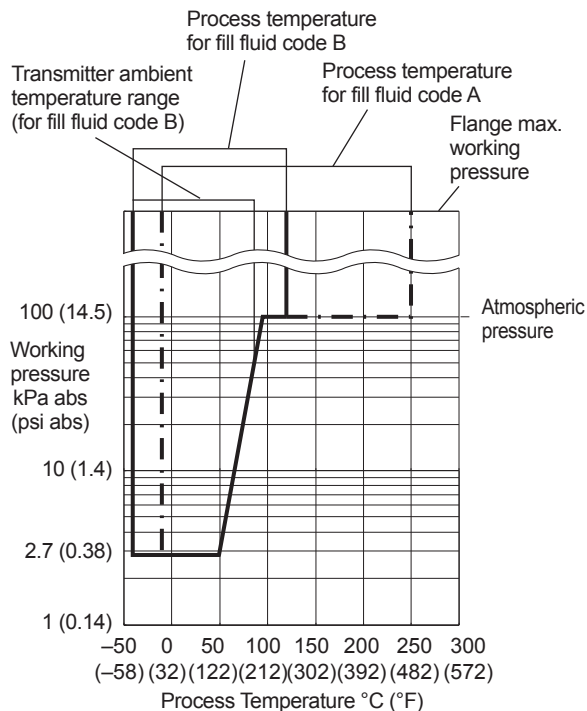

Figure 9.1 Working Pressure and Process Temperature (Fill fluid: silicone oil for general and high temperature use)
For atmospheric pressure or below, see figure 9.1.
*1: See figure 9.1 'Working Pressure and Process Temperature.'